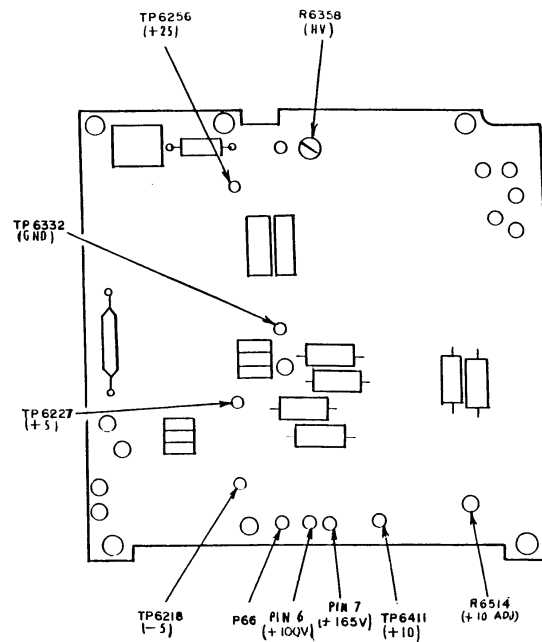

Figure 5. Power supply board – to view.
(1) Connect multimeter common lead to TP6332 (GND) (fig. 5) and positive lead to TP6256 (+25 V) (fig. 5). If multimeter does not indicate between 24.75 and 25.25 V dc, perform **b** below.
Leave common lead connected to TP6332 (GND) (fig. 5) throughout this performance check.
(2) Repeat technique of (1) above for test points listed in table 4 and shown in figure 5. If multimeter does not indicate within limits specified, perform adjustment listed in table 4.
b. Adjustments. Adjust R6358 (HV) (fig. 5) for a 25-V dc indication on multimeter (R).